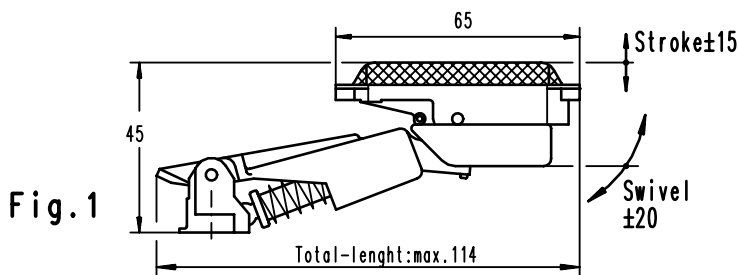

Fig. 1
- Transfer caps corresponding to figs. 1 and 2 :
- Transfer caps corresponding to figs. 1 and 2: